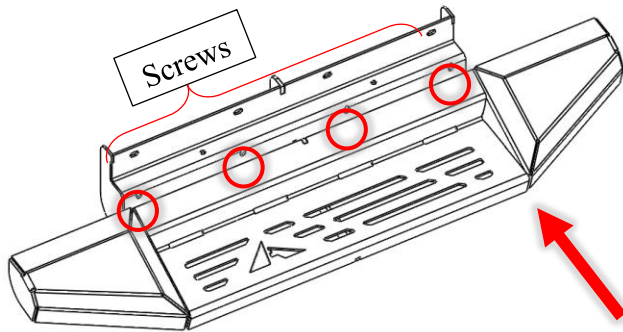

Figure 8: Driver's Side Step Install
- Line up the B-pillar seam with the inside of the rear shroud (Figure 8, arrow).
- Use six (6) self-tapping screws total for the upper vertical and horizontal flanges of the step brackets (Figure 8).
- Use four (4) 1/4"-20 bolts total for the pinch weld fasteners (Figure 8, circles).